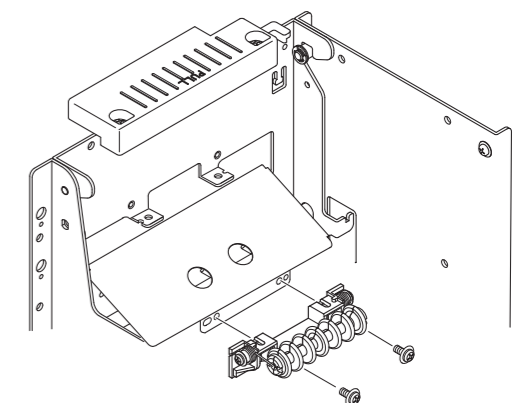

Fig. 2-2-11
5. Use the screws that you removed in step 1 to remount the damper roller unit in the new position for the vertical layout type. At this time, be careful about the direction of the damper roller unit. (See the Fig.2-2-11.)